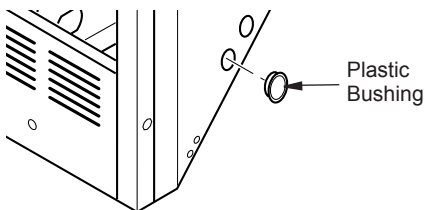

Figure 11 - Installing Plastic Bushing for Power Cord
- a. If your firebox is installed as a freestanding unit, determine whether power cord will exit left side or right side of firebox. Install 1 plastic bushing provided into the 1 1/2" hole in the floor support on the exit side. Install second plastic bushing (provided) into the 1 1/2" hole in outer casing through which power cord will exit (see Figure 11). Route power cord through both plastic bushings and plug power cord into a 3-prong grounded wall receptacle near firebox.